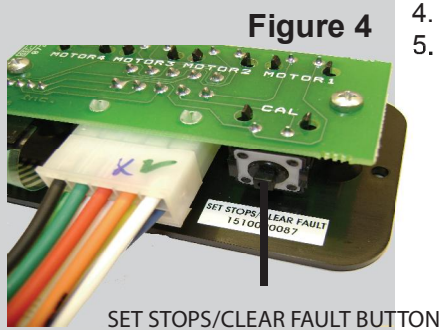
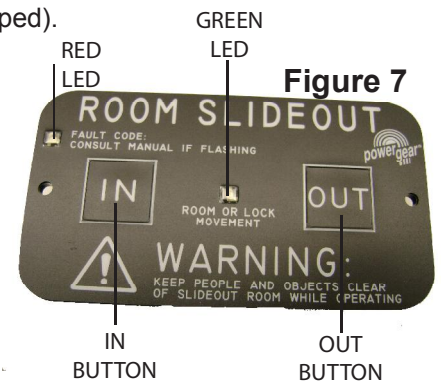

Figure 4
Figure 7
2. Determine location to mount touchpad (Figure 7). Location needs to be in view of slideout room and have a minimum depth of 1" inside the wall. Cut 2 7/8" wide x 1 3/4" high rectangular opening in wall to mount the touchpad.
3. Route and attach touchpad harness to where touchpad will be mounted. Mount touchpad with (2) screws after system has been programmed.
3. Remove the touchpad (Fig 7) from the wall.
4. Press and hold the “Set Stops/Clear Fault” button on the back of the wall touchpad for 5 seconds. (Figure 4). Both LED’s will light while the button is held down. (Figure 7)
- The GREEN LED indicates system operation. (Figure 7)
- The RED LED indicates a fault or problem with the system. (Figure 7) and refer to Fault Diagnostics Mode in this manual for additional information.
4. Press and hold the OUT button (Figure 7). If equipped with room locks, the room locks will first retract prior to room movement. Reference the GREEN LED indications above to determine component movement.
2. Press and hold the IN button (Figure 7) If equipped with room locks, the room locks will automatically extend when the room is fully retracted. Reference the GREEN LED indications above to determine component movement.
The control has the ability to detect several faults. When a fault is detected, the room movement will stop and the RED LED (Figure 7) will flash a number of times corresponding to a specific fault code listed below.
- **MAJOR** faults must be cleared by pushing the 'Set Stop/Clear Fault' button located on the back of the wall touchpad (Figure 4). This is done to alert the end user that there is a major problem with the system and to prevent damage to the slideout room.
- To determine the fault, count the number of GREEN and RED LED flashes on the wall touchpad (Fig 7) The number of flashes corresponds to a fault code number.
1. Remove the touchpad (Fig 7) from the wall
2. Press and hold the "Set Stops/Clear Fault" button on the back of the wall touchpad for 5 seconds (Figure 4). Both LED's will light while the button is held down. (Figure 7)
- b. Press the IN button on the front of the wall touchpad (Figure 7) until the room is fully retracted